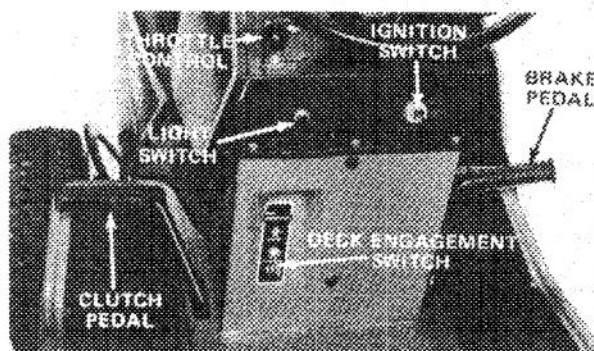

Figure 15
Clutch Pedal (Fig. 15) — Foot operated clutch pedal is used in conjunction with the gear shift. Clutch must be fully depressed when shifting gears so that friction drive plates are separated on clutch assembly.
Throttle Control (Fig. 15) — Throttle control connects to and operates carburetor mounted throttle and choke. Control has three positions: IDLE, FAST and CHOKE. To obtain choke position control must be pushed slightly to the right and forward.
Ignition Switch (Fig. 15) — Switch is part of battery ignition system, and it has three positions: OFF, ON and START. Key automatically returns to ON position from START position when released after engine starts.
Light Switch (Fig. 15) — Two position switch for actuating headlights. Lights will not function unless engine is running as current is supplied by the engine alternator.
Deck Engagement Switch (Fig. 15) — Toggle switch (Pull out and up to engage) releases blade brake and engages electromagnetic clutch to drive cutter blade.
Brake Pedal (Fig. 15) — Foot operated pedal, which when depressed, actuates a disc brake assembly at the side of the transmission. Clutch pedal should also be depressed while braking to achieve maximum brake effectiveness.
3. To release the parking brake, depress brake pedal (Fig. 15), and push parking brake lever down to return it to its disengaged position. Release brake pedal slowly.